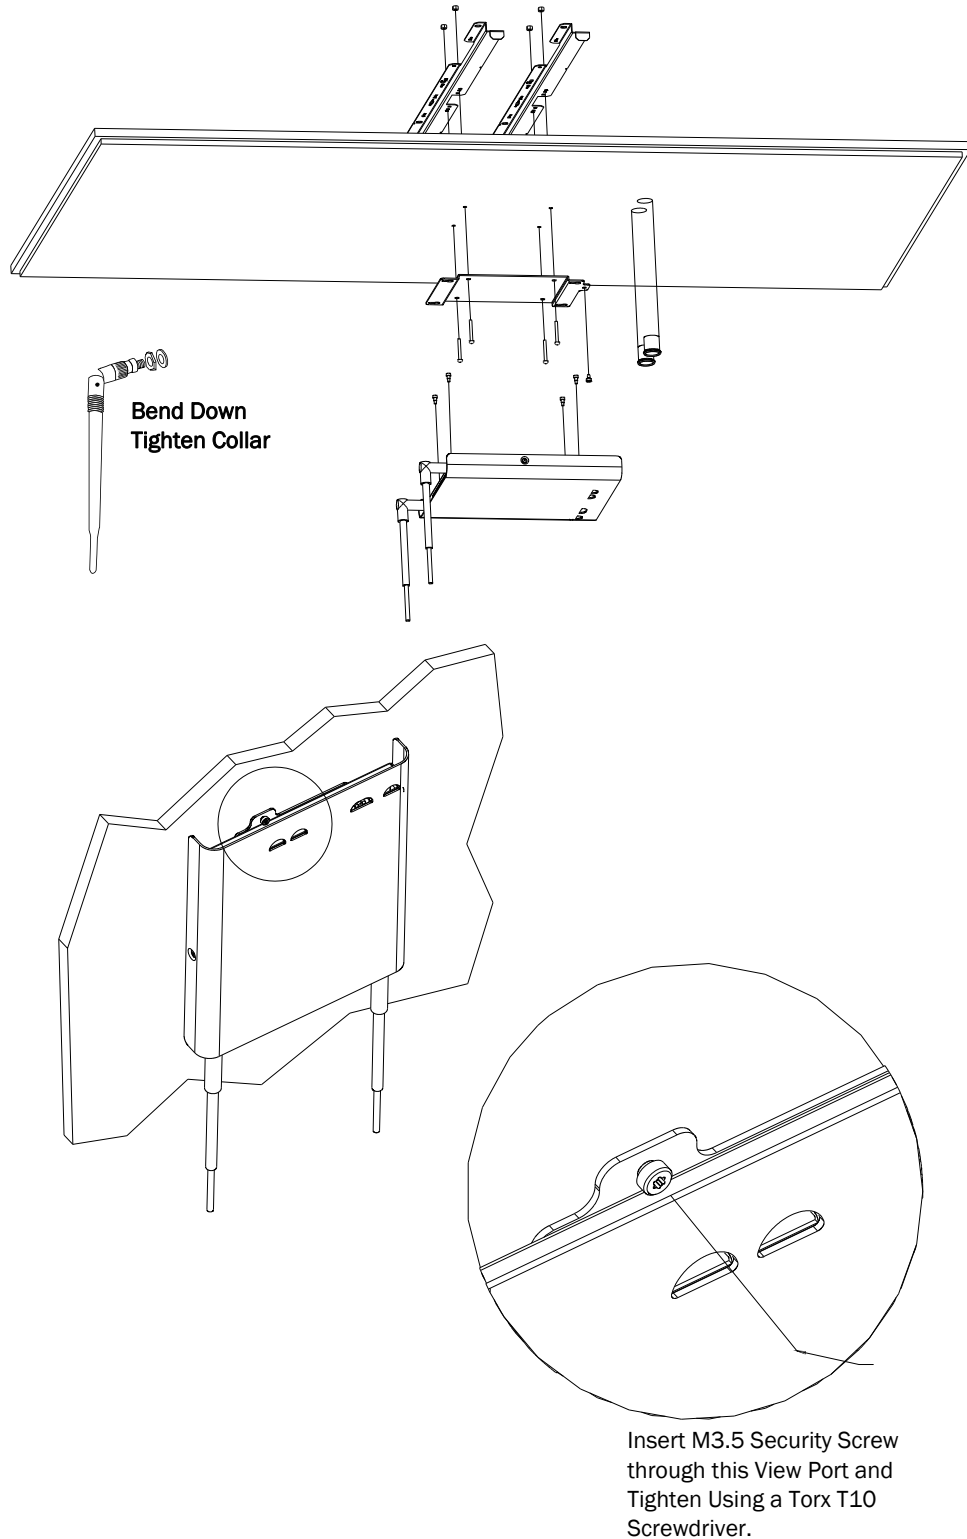

Figure 2-11: Mounting the Core AP Below a Ceiling Tile (Quick Release)
8. Insert the four (4) M3 .5 x 0.6 x 30mm screws into the AP wall plate, through the tile, and into the mating holes in the mounting rails on top of the tile. Hand tighten the four locking hex nuts onto the screws, and then torque-tighten each nut to 10-inch lbs (#1 Pozidrive).
9. Using a 5/64-inch (2 mm) Allen (i.e., hexagonal) wrench, secure the four supplied M3 X 0.5 hex-head shoulder screws to the back of the Core AP as shown in Figure 2-11. Torque-tighten each shoulder screw to 8-inch lbs.
11. Using a Torx T10 screw driver, secure the Core AP to the wall plate by screwing the supplied M3 0.5 X 0.6 T-10 Torx Head security screw into the PEM nut in the wall plate as shown in Figure 2-11. Torque-tighten the screw to 10-inch lbs. Note that this safety screw is used to prevent the Core AP from sliding out of the wall plate.